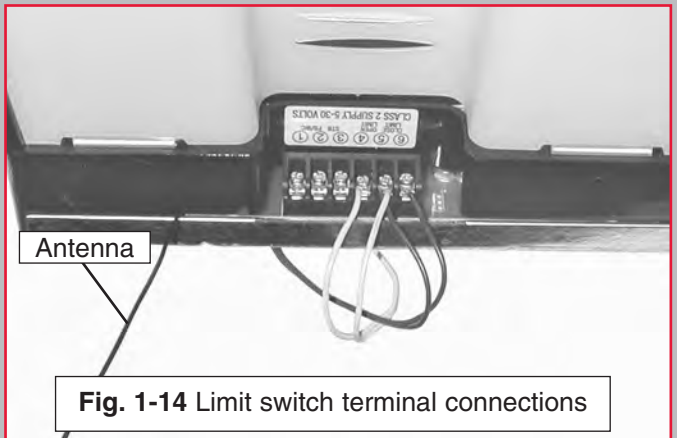

Fig. 1-14 Limit switch terminal connections
15. Connecting limit switch wires to terminals (Fig. 1-14).